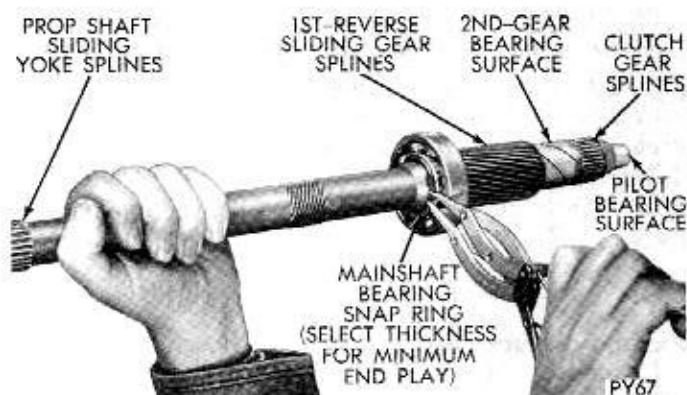

Fig. 23—Mainshaft and Bearing Assembly
(4) Remove selective snap ring from shaft (Fig. 23) and press bearing off the mainshaft.
Inspect mainshaft gear and bearing mating surfaces. If gear contact surfaces show signs of galling or are excessively worn, a new mainshaft should be installed (Fig. 23).